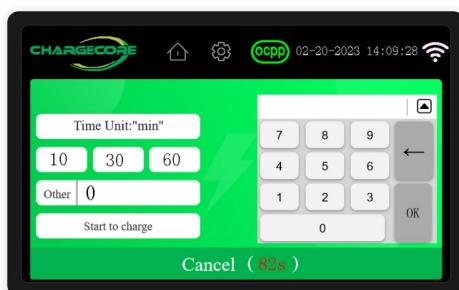

Figure 35 Time mode
- a. Enter the percentage of power required for this vehicle (%)/the required charging time for this time (min)/the required power for this charging (kwh) (as shown in Figure 35)